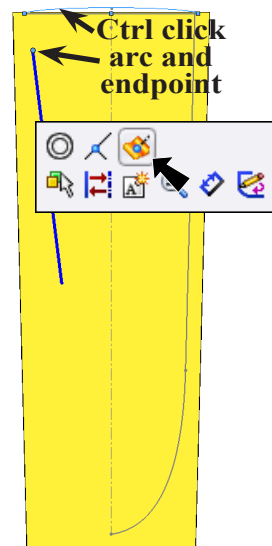

Fig. 44
Step 5. **Ctrl click top endpoint of line and arc in loft rear sketch, Fig. 44.** To Ctrl click, click endpoint, then hold down Ctrl key and arc.
Step 6. Click **Make Pierce**  on the Content menu, **Fig. 44.** Make Pierce adds a Pierce relation between line and rear sketch.